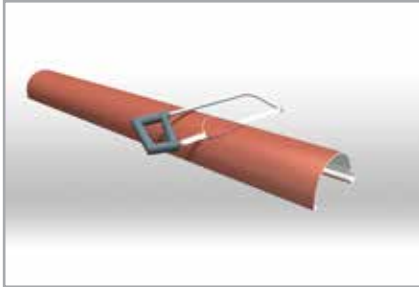

Fig. 13
- 3.6 In the place where the outlet is to be installed, cut a round hole in the bottom of the gutter of a diameter equal to the diameter of the downpipe (**Fig. 13, 14**)